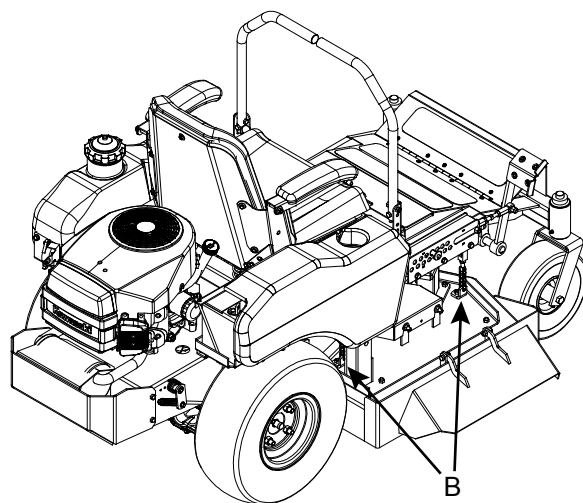

Figure 8
The deck comes from the manufacturer pre-leveled. If the deck does not appear to be cutting level use the following procedure. When leveling the deck, you will notice there are four chains (B) that support the deck (See fig. 8) these are the points you adjust when you need to level the deck.